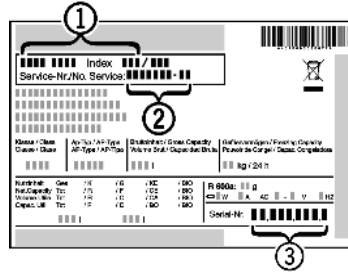

Fig. 20
- ▶ Read the appliance designation Fig. 20 (1), service no. Fig. 20 (2) and serial no. Fig. 20 (3) from the rating plate. The rating plate is located inside the appliance on the left-hand side.
- ▶ Notify a qualified service provider, specifying the fault, appliance designation Fig. 20 (1), service no. Fig. 20 (2) and serial Fig. 20 (3) no.